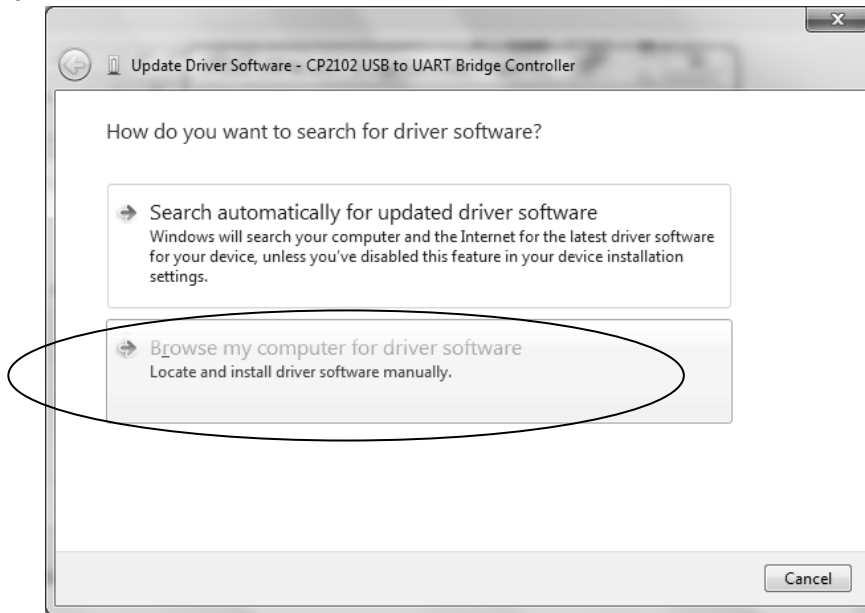

Fig. 71 Update Driver Software
(21) The screen shown in Fig.71 appears. Select "**Browse my computer for driver software**", then click it.